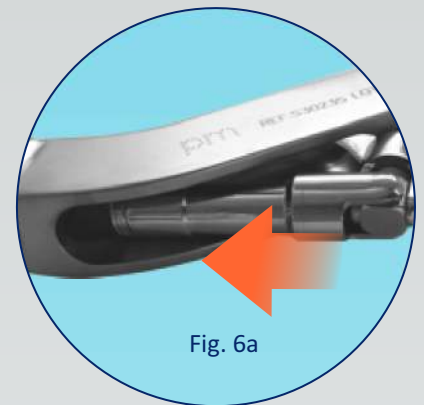

Fig. 6a
- ① Re-insert the Threaded End (D) into its housing (fig. 6a)